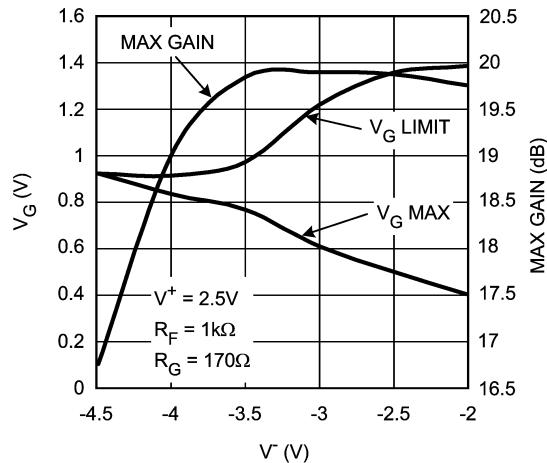

FIGURE 9.  $V_{G\_MAX}$ ,  $V_{G\_LIMIT}$ , & Max-gain vs.  $V^-$  ( $V^+ = 2.5V$ )
a)  $V_G$  range constricts. Referring to *Figure 9*, note that  $V_{G\_MAX}$  ( $V_G$  voltage required to get maximum gain) is  $0.5V$  ( $V_S = \pm 2.5V$ ) compared to  $1.0V$  for  $V_S = \pm 5V$ . At the same time, gain cut-off ( $V_{G\_MIN}$ ) would shift to  $-0.5V$  from  $-1V$  with  $V_S = \pm 5V$ .
b)  $V_{G\_LIMIT}$  (maximum permissible voltage on  $V_G$ ) is reduced. This is due to limitations within the device arising from transistor headroom. Beyond this limit, device performance will be affected (non-destructive). Referring to *Figure 9*, note that with  $V^+ = 2.5V$ , and  $V^- = -4V$ ,  $V_{G\_LIMIT}$  is approaching  $V_{G\_MAX}$  and already "Max gain" is reduced by 1dB. This means that operating under these conditions has reduced the maximum permissible voltage on  $V_G$  to a level below what is needed to get Max gain. If supply voltages are asymmetrical, reference *Figure 9* and
c) "Max\_gain" reduces. There is an intrinsic reduction in max gain when the total supply voltage is reduced (see Typical Performance Characteristics plots for Gain vs.  $V_G$  ( $V_S = \pm 2.5V$ )). In addition, there is the more drastic mechanism described in "b" above and shown in *Figure 9*.